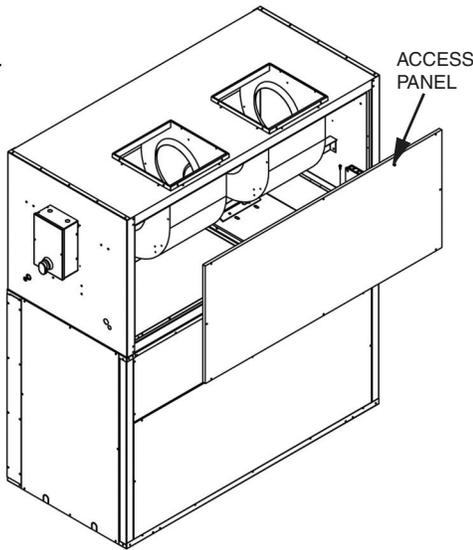

Fig. 26 — Remove Access Panel
4. Remove access panel. See Fig. 26.